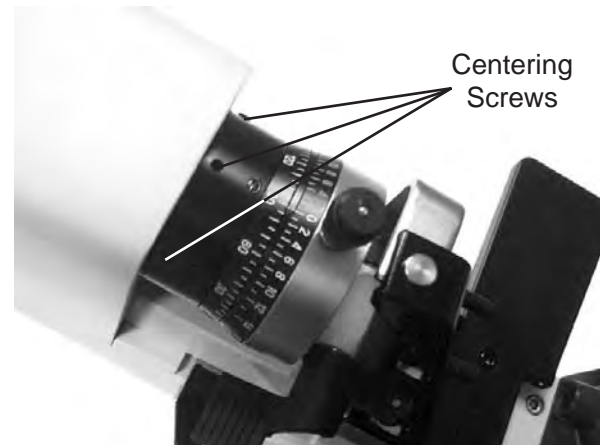

Figure MM-05 Centering Screws
3. Using a flathead screwdriver, adjust the 3 Screws to bring the center of the target into the center of the eye piece scale. Refer to Figure MM-05.